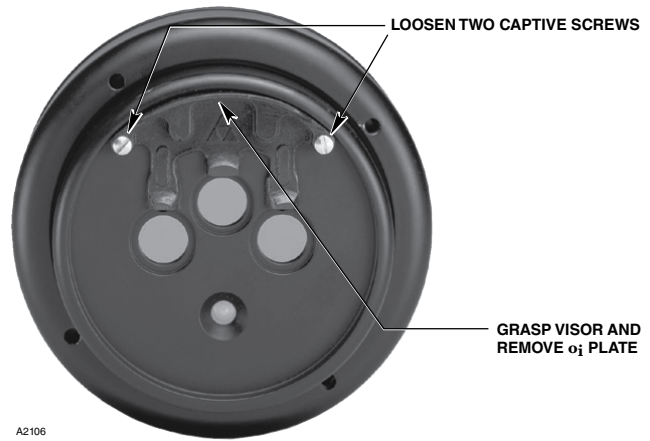

Figure 17—**oi** Plate Removal
1. Loosen the two captive screws, then grasp the **oi** plate by the visor and remove it from the detector. See Figure 17.